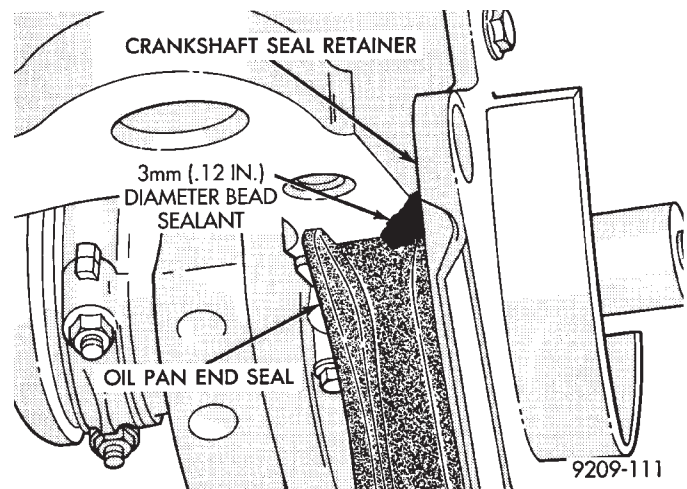

Fig. 3 Sealing, Front and Rear End Seals
- (1) Apply Mopar Silicone Rubber Adhesive Sealant or equivalent at the front seal retainer parting line (Fig. 3).
- (2) Install the oil pan side gaskets to the block. Use heavy grease or Mopar Silicone Rubber Adhesive Sealant or equivalent to hold in place.
- (3) Apply Mopar Silicone Rubber Adhesive Sealant or equivalent to ends of new oil pan end seals at junction of cylinder block pan rail gasket (Fig. 3).
- (4) Install pan and tighten screws to 23 N•m (200 in. lbs.).